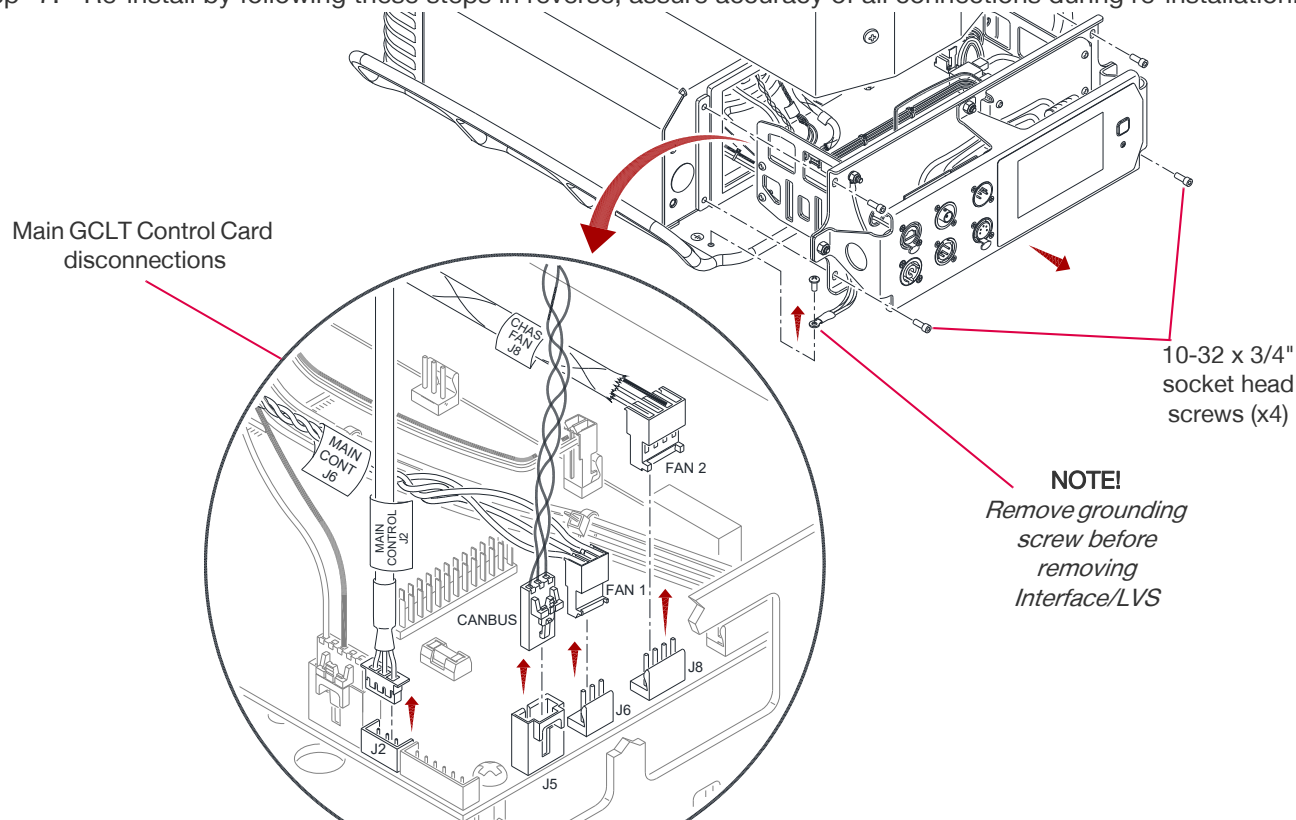

Figure 3-59: Removing the Interface/LVS, Part 1
- Step 3. Remove the one 10-32 x 1/4" PPB SEMS screw securing the Chassis Ground to the Upper Enclosure. (Figure 3-59)
- Step 4. Remove the four 10-32 x 3/4" socket head cap screws securing the Interface to the Upper Enclosure. (Figure 3-59)
- Step 3. To disconnect Ballast wiring, partially remove the Interface/LVS Assembly: (See **Figure 3-59**)